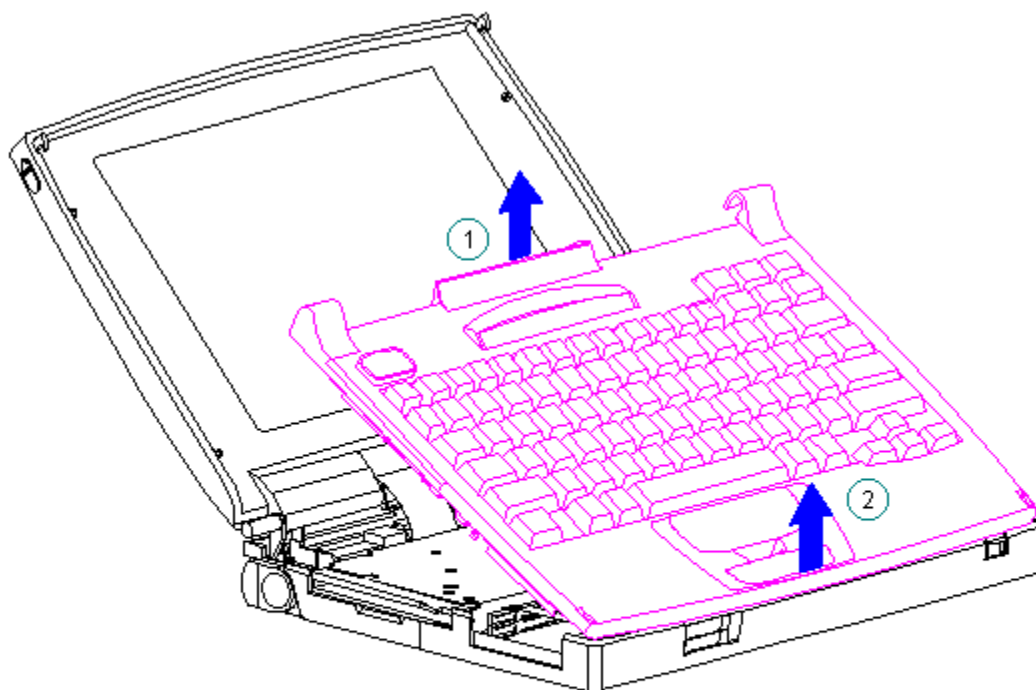

Figure 5-17. Removing the Keyboard Assembly
6. Remove the keyboard assembly by lifting it up [1] and off the front of the computer [2] (Figure 5-17).